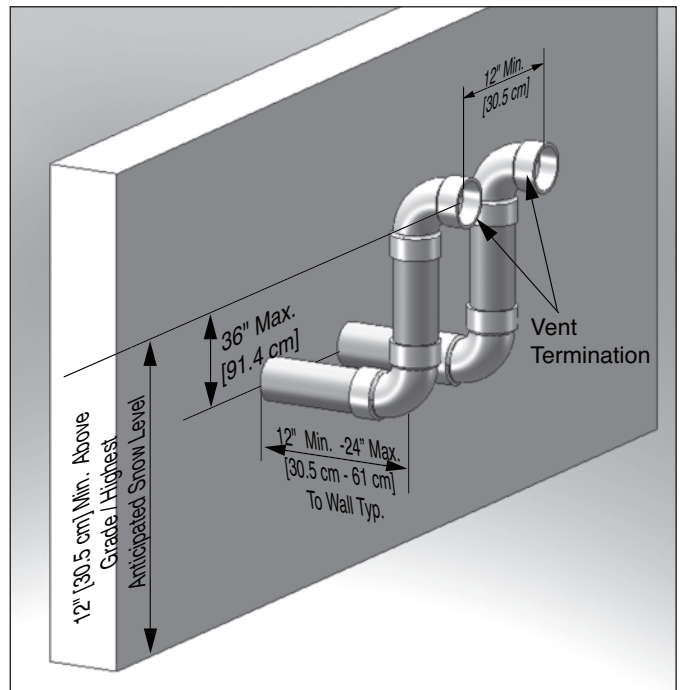

Fig. 32: Category IV - Multiple Boiler Sidewall Vent Terminations
2. The wall penetration of the vent should be a minimum 12" [30.5 cm] from the adjacent vent pipe of another boiler for installations in the U.S as shown Fig. 32. For installations in Canada, provide clearances as required by CAN/CSA B149.1.
Fig. 32 shows one option for vent terminations of multiple PRESTIGE boilers. Any vent termination option shown in Figs. 26 through 31 pages 30 and 31 can be used for multiple PRESTIGE boilers. The 12" [30.5 cm] minimum distance between centerlines of the vent piping must be maintained for any chosen option.